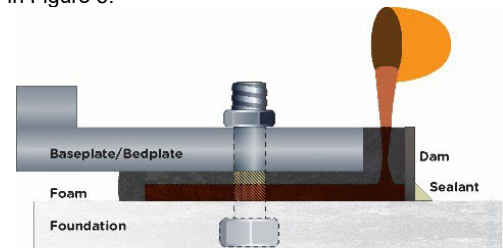

Figure 5 – Belzona 7111 being poured in a thin stream
- a) Pour the mixed **Belzona 7111** into the dam immediately after mixing. Allow the product to flow freely across and underneath the equipment in a thin stream to avoid excessive bubbling, as shown below in Figure 5.